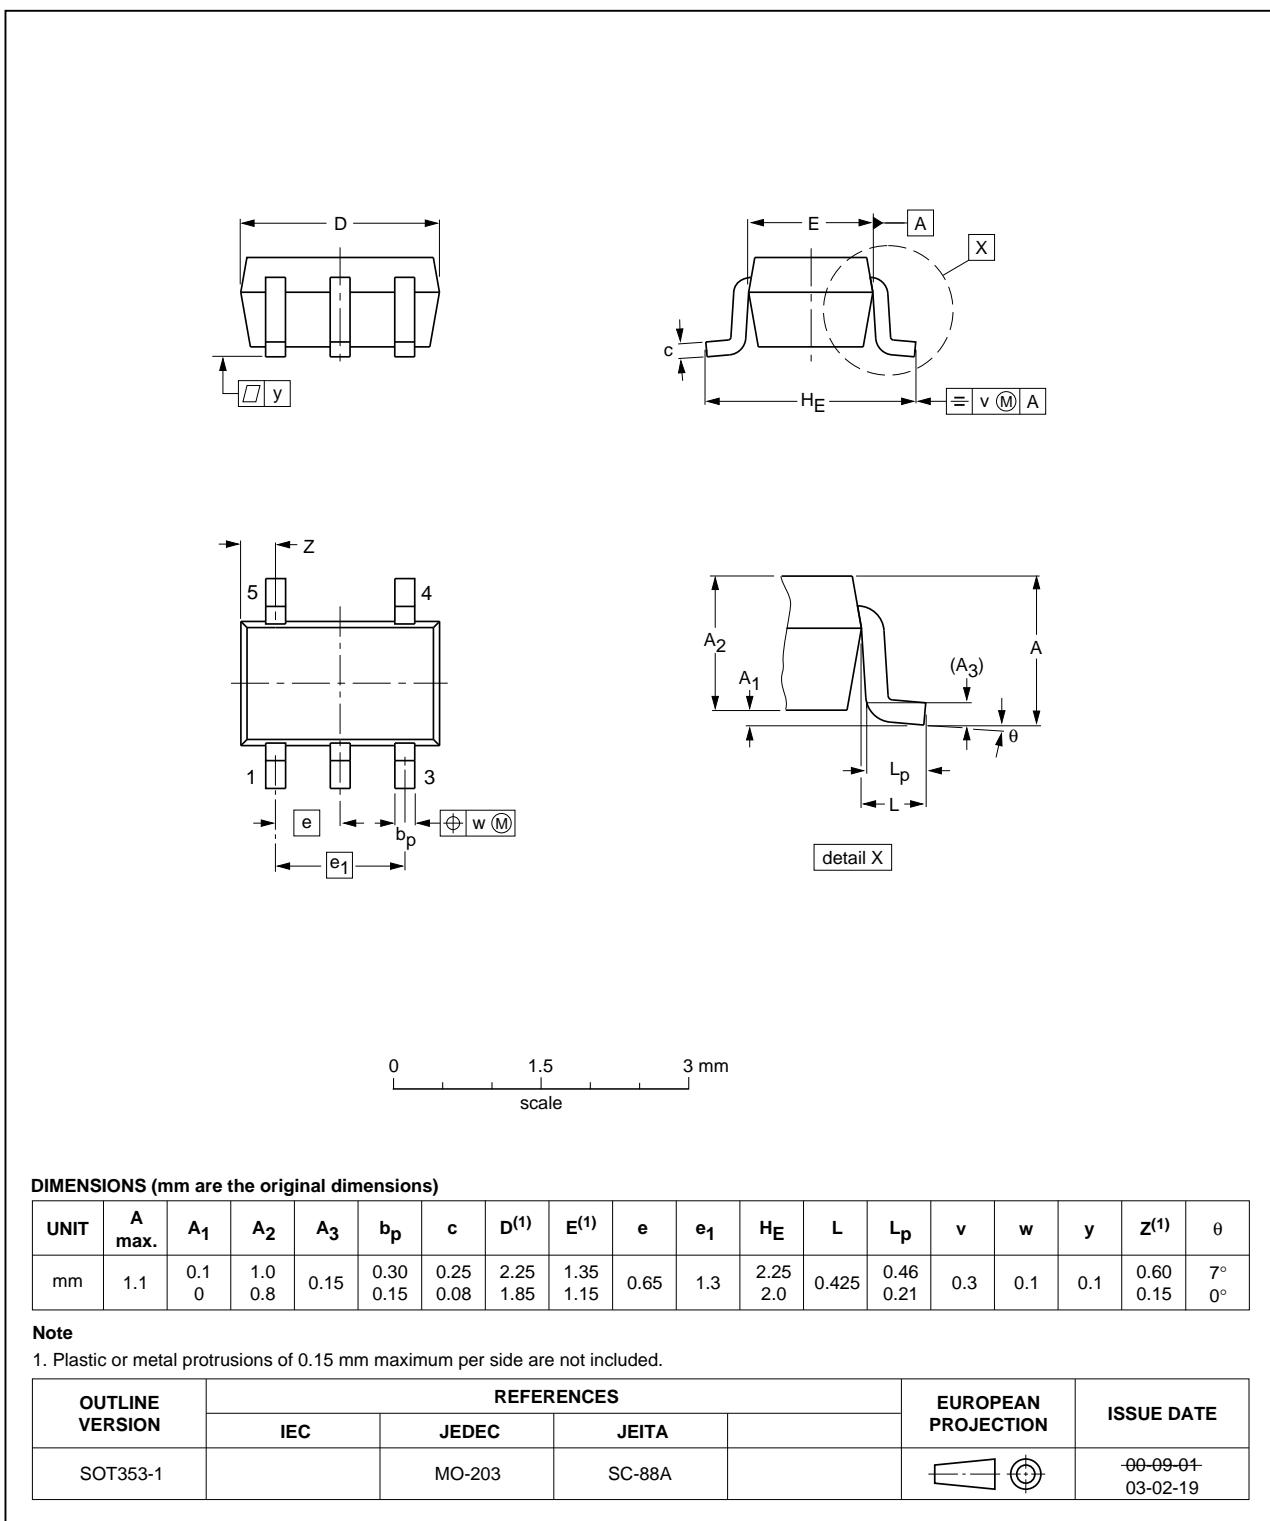

Fig 11. Package outline SOT353-1 (TSSOP5)
• Package outline drawing of SOT886 ( <a href="#">Figure 11</a> ) modified.